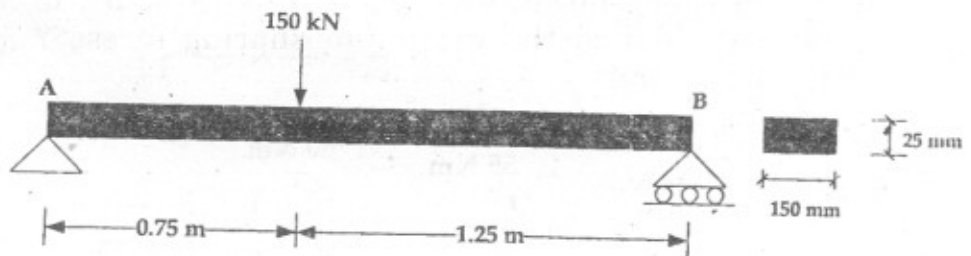

Fig. 12
- (b) Determine the strain energy of the prismatic beam AB for the loading as shown in Fig. 12. Take $E = 200 \text{ GPa}$. [8]